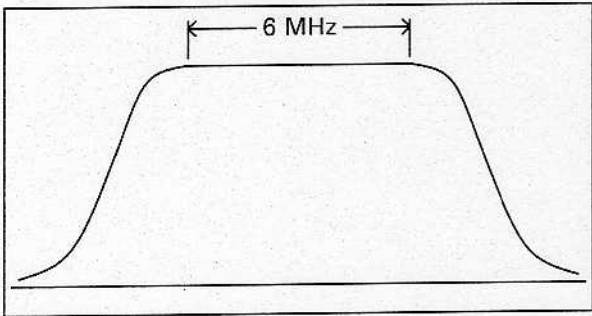

Fig. 22
- h) Trim the tuning and loop position of the output cavities to flatten the output response and obtain the required bandwidth. Typically, a 6 MHz plateau is required for 8-VSB operation (see Fig. 22). The shoulders of the passband should not start to roll off before the band edge.